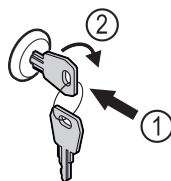

Fig. 163
- Insert the key. Fig. 163 (1)
- Turn the key clockwise by 90°. Fig. 163 (2)